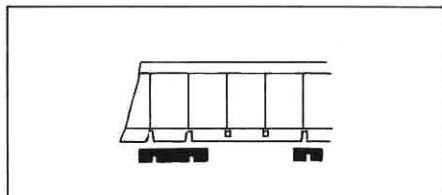

Fig. 2
- when perforations are damaged as shown in Fig. 2.